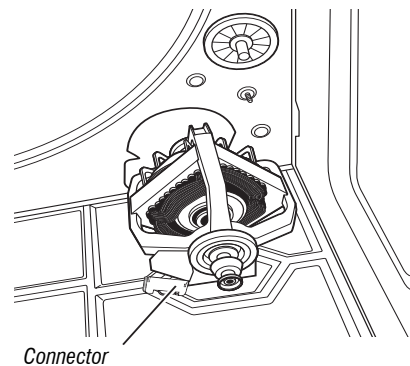

Figure 7 - Remove connector.
9. Check the wiring and continuity from the L2 terminal of the terminal block and the 2M terminal in the white connector from the Motor, see figure 7 on page 20. Also, locate these measurement points by referring to the appropriate wiring diagram (Electric) on page 28.
8. Remove the white connector from the drive motor switch. See figure 7.